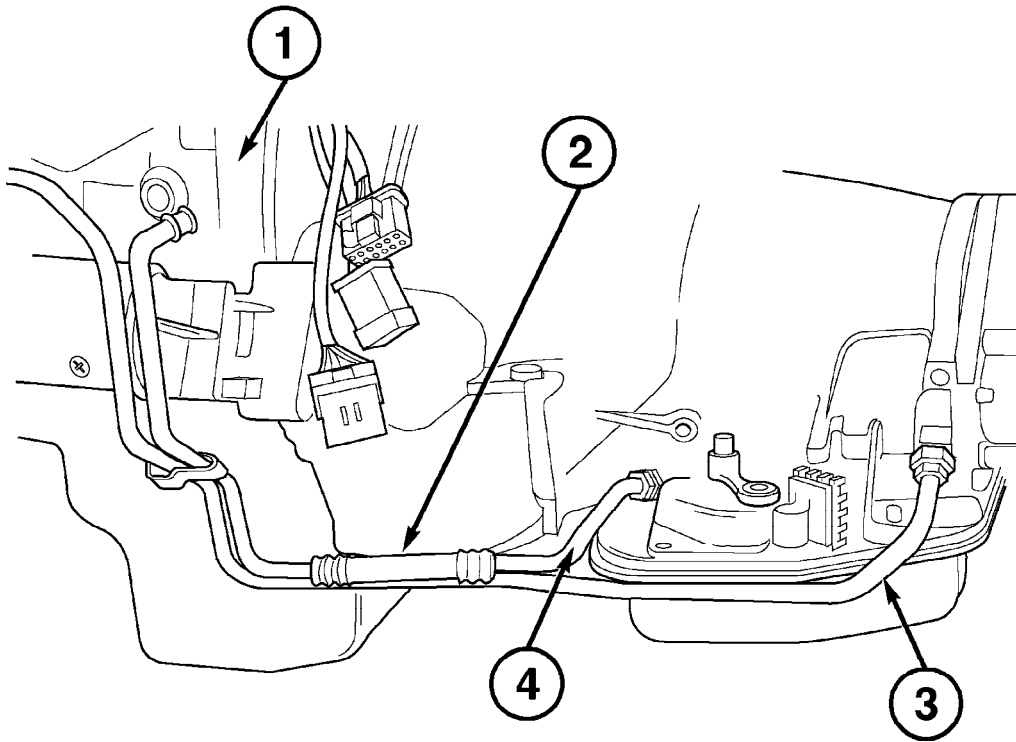

FIGURE 6
29. Check the alignment of the new cooler line (Figure 6). Make sure that the hose portion of the line is not contorted or twisted as this can cause the hose to fail.